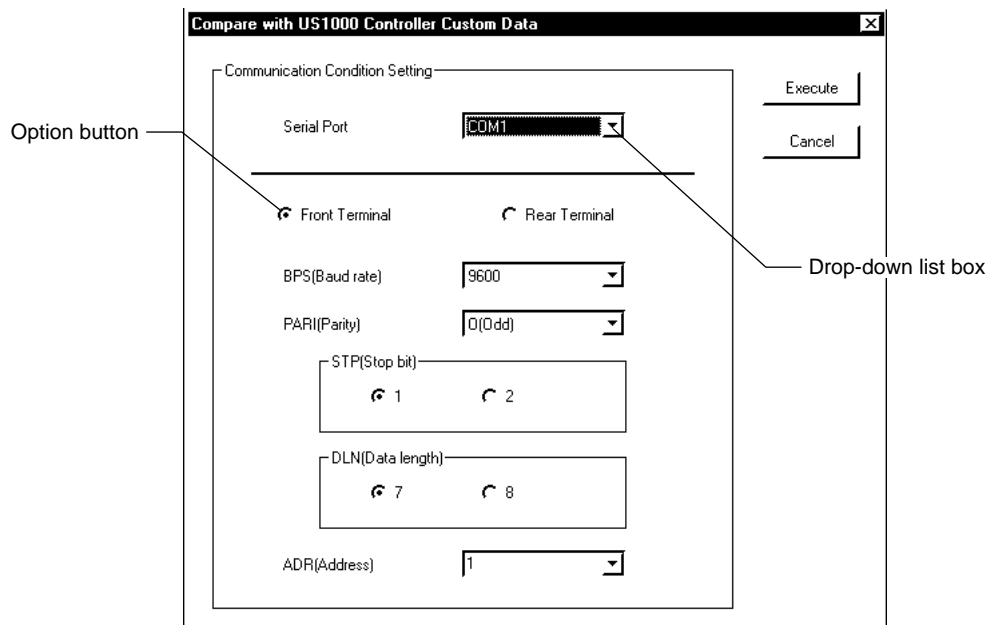

Figure 8.3.1 [Compare with US1000 Controller Custom Data] Dialog Box
- ① From the tool menus, choose <Communication>, then <Compare...>. The [Compare with US1000 Controller Custom Data] dialog box (Figure 8.3.1) appears.
- ③ From the <Serial Port> drop-down list box, select a communication port of the personal computer.
- ④ Click the <Execute> button.
- ① From the tool menus, choose <Communication>, then <Compare with US1000 Controller Custom Data>. The [Compare with US1000 Controller Custom Data] dialog box (Figure 8.3.1) appears.
- ③ From the <Serial Port> drop-down list box, select a communication port of the personal computer. Then, from the <Baud rate>, <Parity> and <Address> drop-down list boxes, choose the options of the three communication conditions, the baud rate, parity and address. Also choose the options of the two communication conditions, the stop bit and data length, by clicking the appropriate option buttons in the <Stop bit> and <Data length> sections.